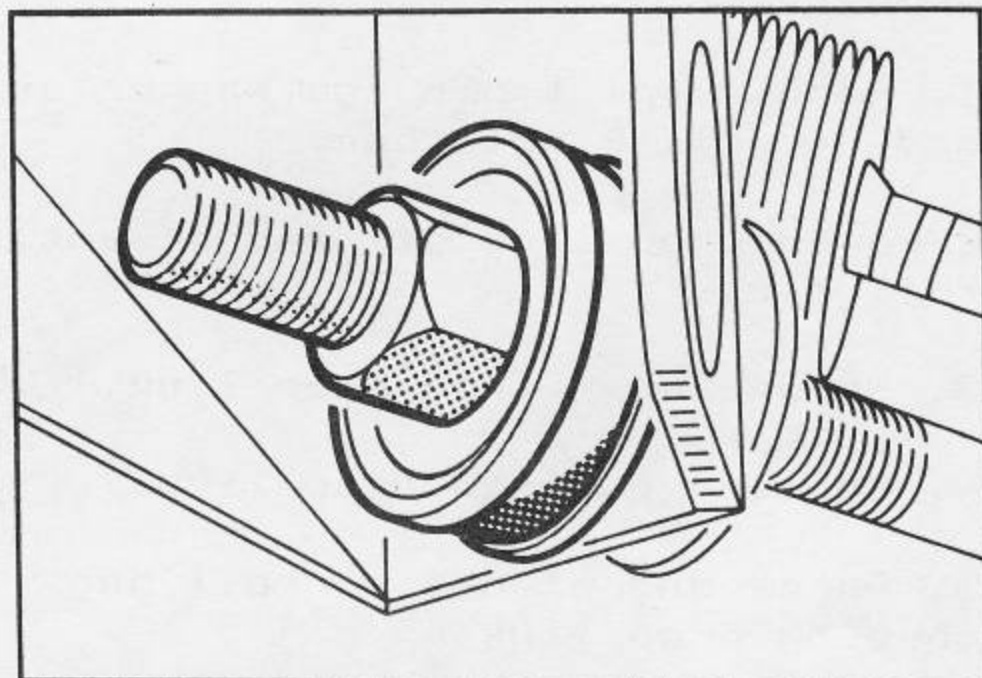

Fig.53 Remove link forward nut.
5. Remove the forward nut on the link securing the bar to the chassis. Remove the washer, insulator and washer. Fig.53